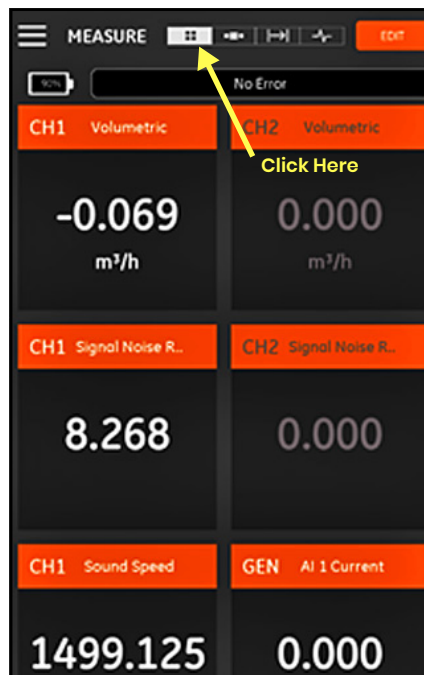

Figure 105: Multiple Measurement Screen
In *Figure 105* below, note that CH1 has been turned On and CH2 has been turned Off in the PROGRAM menu. Also, no AI source is connected to the General channel, because the value is zero.
icon at the top of the screen (see *Figure 105 on page 78*). Note the following:
- An Error Status box is located just above the measurement display section of the screen. If there are no system errors, No Error is displayed (see *Figure 105 on page 78*). However, if a system error does occur, the error information is displayed in this location with a flashing red background.